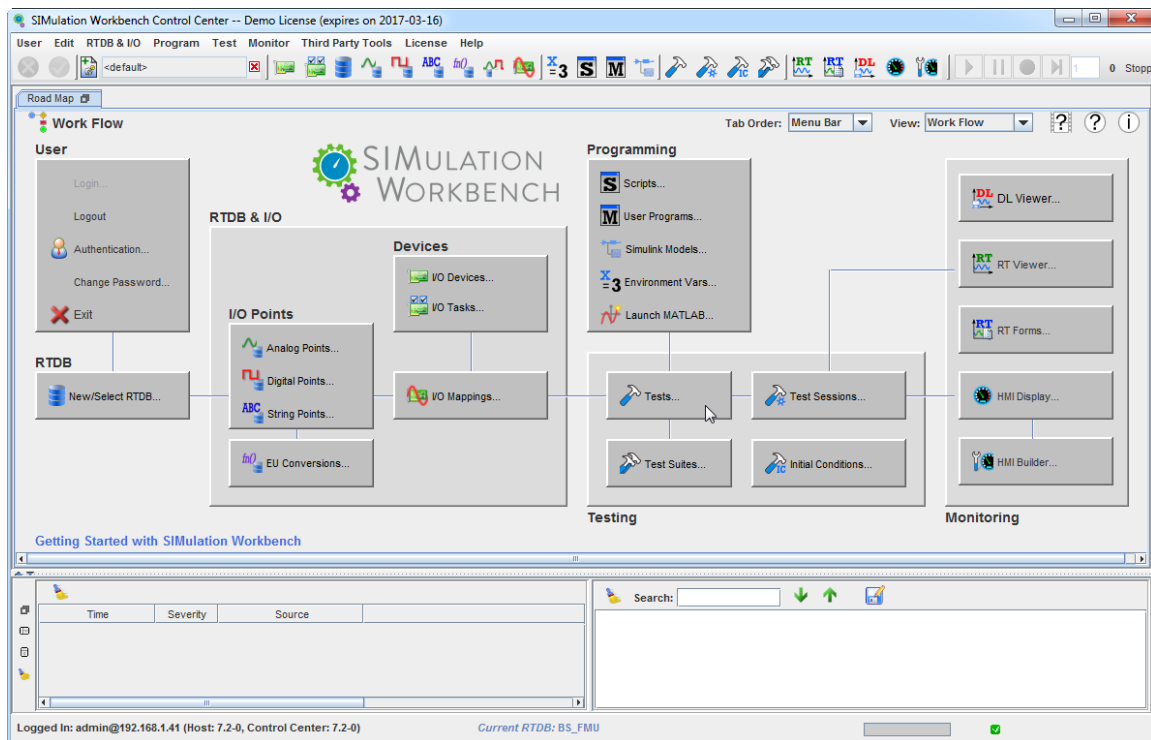

Figure 14. SIMulation Workbench Control Center.
1. Open SIMulation Workbench Control Center (Figure 14). Click the **Tests...** button near the middle of the window.